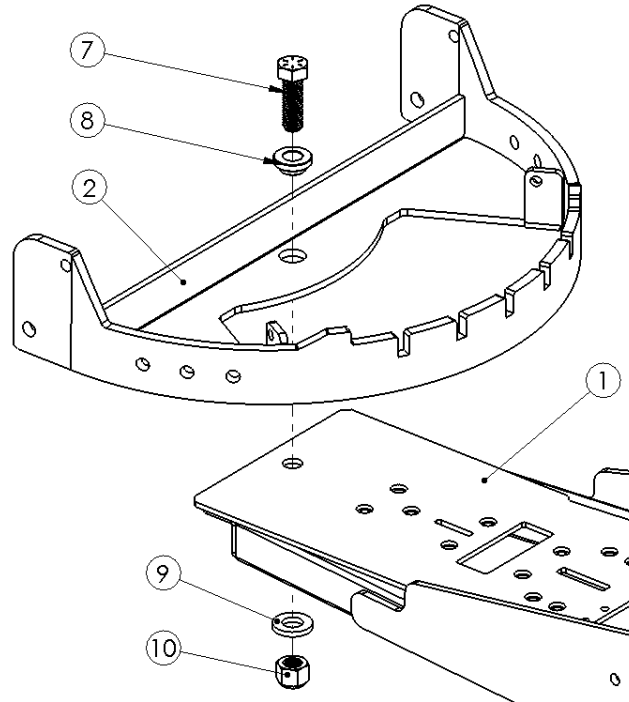

Figure 5
- 1) Attach the Swivel Plate to the Lift Arm using the 5/8" Hex Bolt, 5/8" Flat Washer, 5/8" Nylock Nut and Pivot Ring as shown Figure 5.